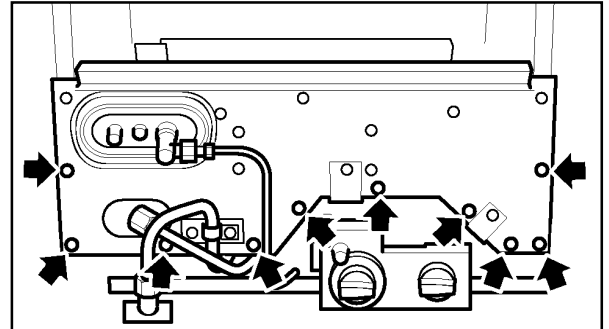

Figure 29 Burner module fixing screws
- Detach the burner front cover by unscrewing the 10 screws at the front of the burner module shown in figure 29.